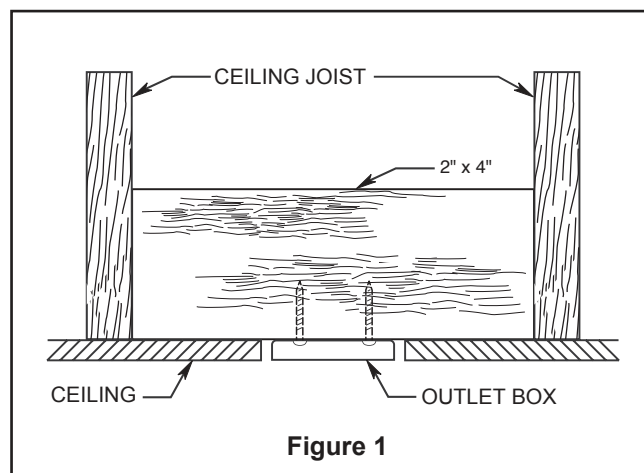
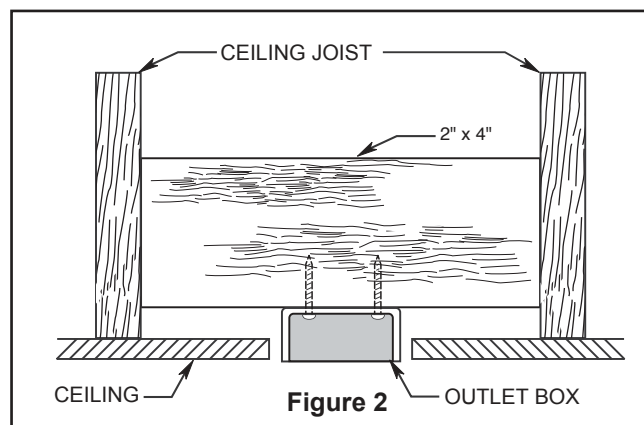
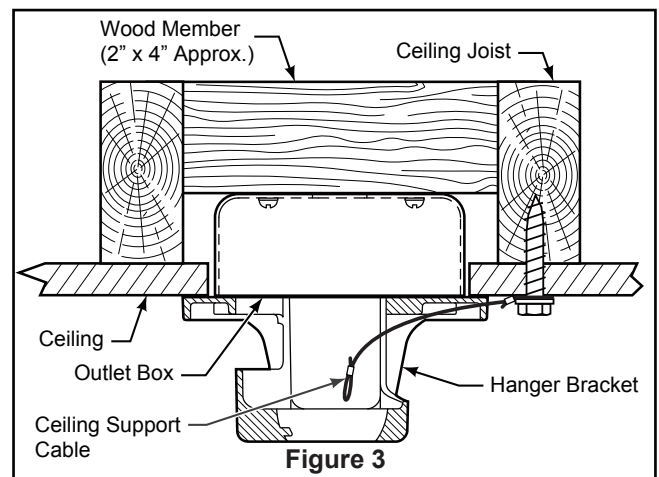

Figure 1
Figure 2
Figure 3
Your new ceiling fan will require a grounded electrical supply line of 120 volts AC, 60 HZ, 15 Amp Circuit. Electrical code requires use of a fan-rated outlet box to support the extra weight and motion associated with a ceiling fan. A fan-rated box will be labeled as such and typically supports up to a 70lb ceiling fan. Fan-Rated Outlet Boxes vary in ratings and design. Ensure the ratings of your ceiling fan outlet box meet the requirements for the ceiling fan being installed. Figure 1, Figure 2 and Figure 3 depicts different structural configurations that may be used for mounting the outlet box.
### Low profile box (Figure 1)
### Deep box (Figure 2)
### Deep box with brace (Figure 3)
3. Loosen the two set screws and locking nuts in the downrod support of the motor assembly. Route the brown, blue, red, gray and yellow wires and safety cable through the downrod. (Figure 3)
1. Securely attach the hanger bracket to the outlet box using the outlet box screws and washers supplied with the outlet box. (Figure 3)
2. Drill a 1/4" pilot hole into the building structure to prevent splitting or cracking with installation of the lag bolt. Using the 3/8" x 2" lag bolt and flat washer, attach safety cable to ceiling joist or wood structural member. The lag bolt will pass through the flat washer, safety cable loop, and into the building structure. (Figure 3)
**NOTE:** Ceiling support cable cannot be secured to outlet box only, it must be directly secured to ceiling joist or structural member using the 3/8" x 2" lag bolt and flat washer. (Figure 3)
- 2. Slide the receiver into the hanger bracket before wiring as shown in figure 3.
3. Attach assembled blades and blade holders to the motor hub using the provided screws with lock washers from the hardware bag. Make sure the screws securing the blade holders to the motor hub are tight and that the blade holders are properly seated. (Figure 3)
3. Remove the battery cover from remote control by screwdriver and retain the screw for later. (Figure 3)